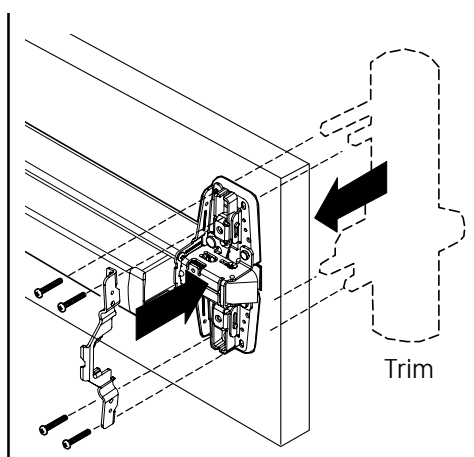

Figure 12-3
- 12.3. Attach trim to door using four screws through device center case (Figure 12-3).